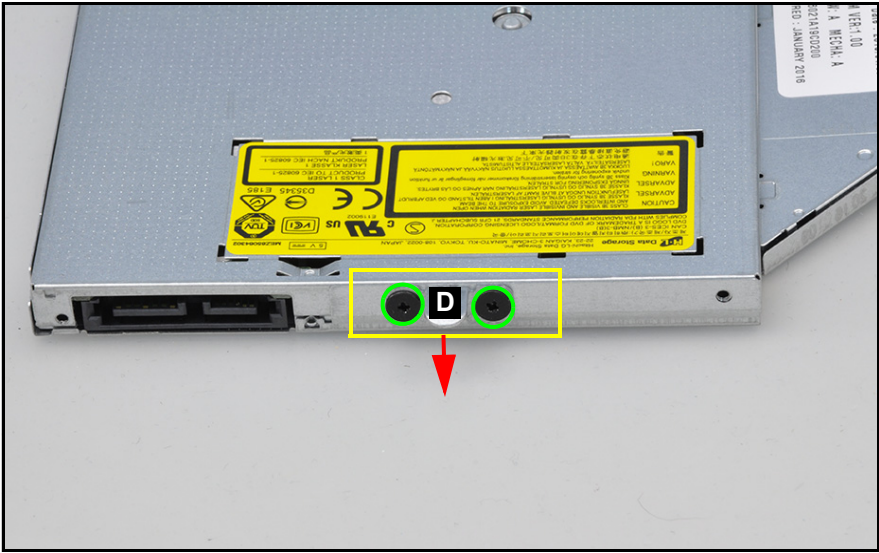

Figure 3-6. ODD Bracket Removal
4. Remove (2) screws from the ODD bracket (Figure 3-6).
5. Remove the ODD bracket (D) (Figure 3-6).